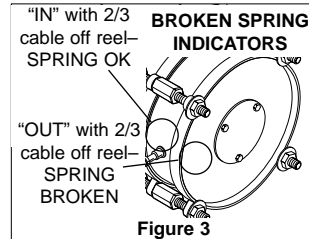

Figure 3
C. Check for broken springs by pulling about 2/3 cable off reel and observing "Broken Spring Indicators" on sides of spring canisters (Fig 3).